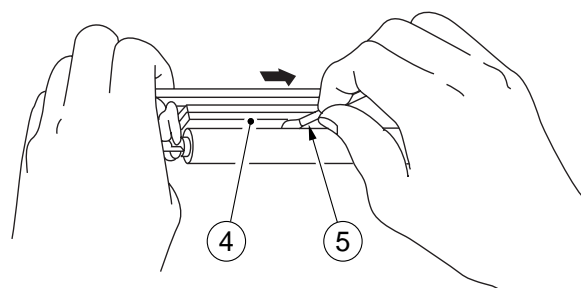

Figure 4-505
- 2) As in Figure 4-505, place the primary charging assembly, and clean the cleaning pad ③ with a cotton swab ④ or folded lint-free paper.